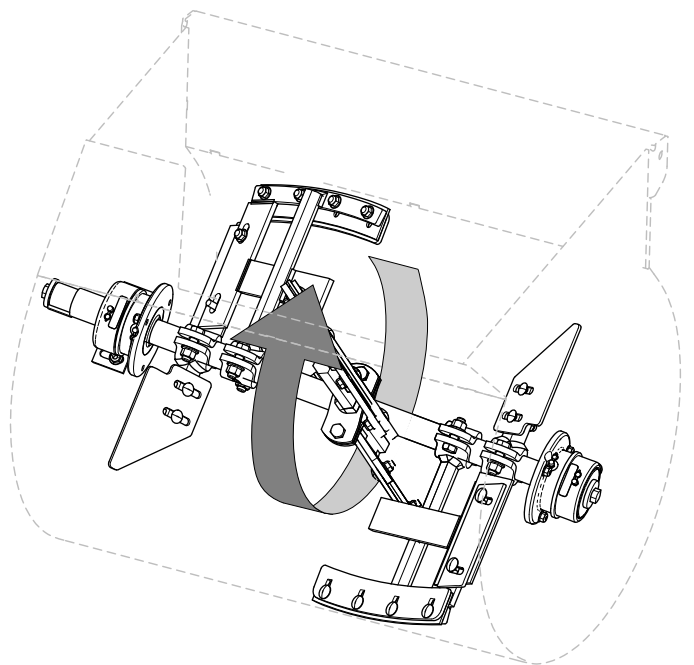

Figure 71
1. Rotate a paddle from the left row of paddles around the drum and locate at the interior of the drum the smallest distance between the drum and the wiper of the paddle (Figure 71).